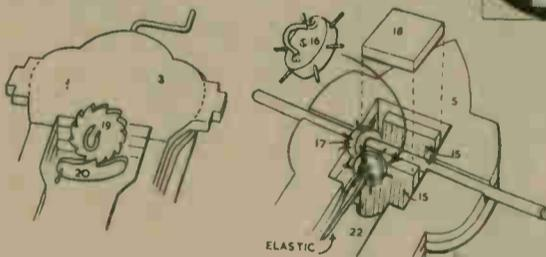

Fig. 2—Underview of ratchet and pawl
Above this ratchet wheel (19) is the pawl (20). It is held with a long pin to the inside of the block front, so that its weight holds the part on to the ratchet and prevents that wheel reversing when turned. A detail of this portion of the mechanism is shown at Fig. 2. This is a helpful view, and should be studied in conjunction with the side view on the design sheet.